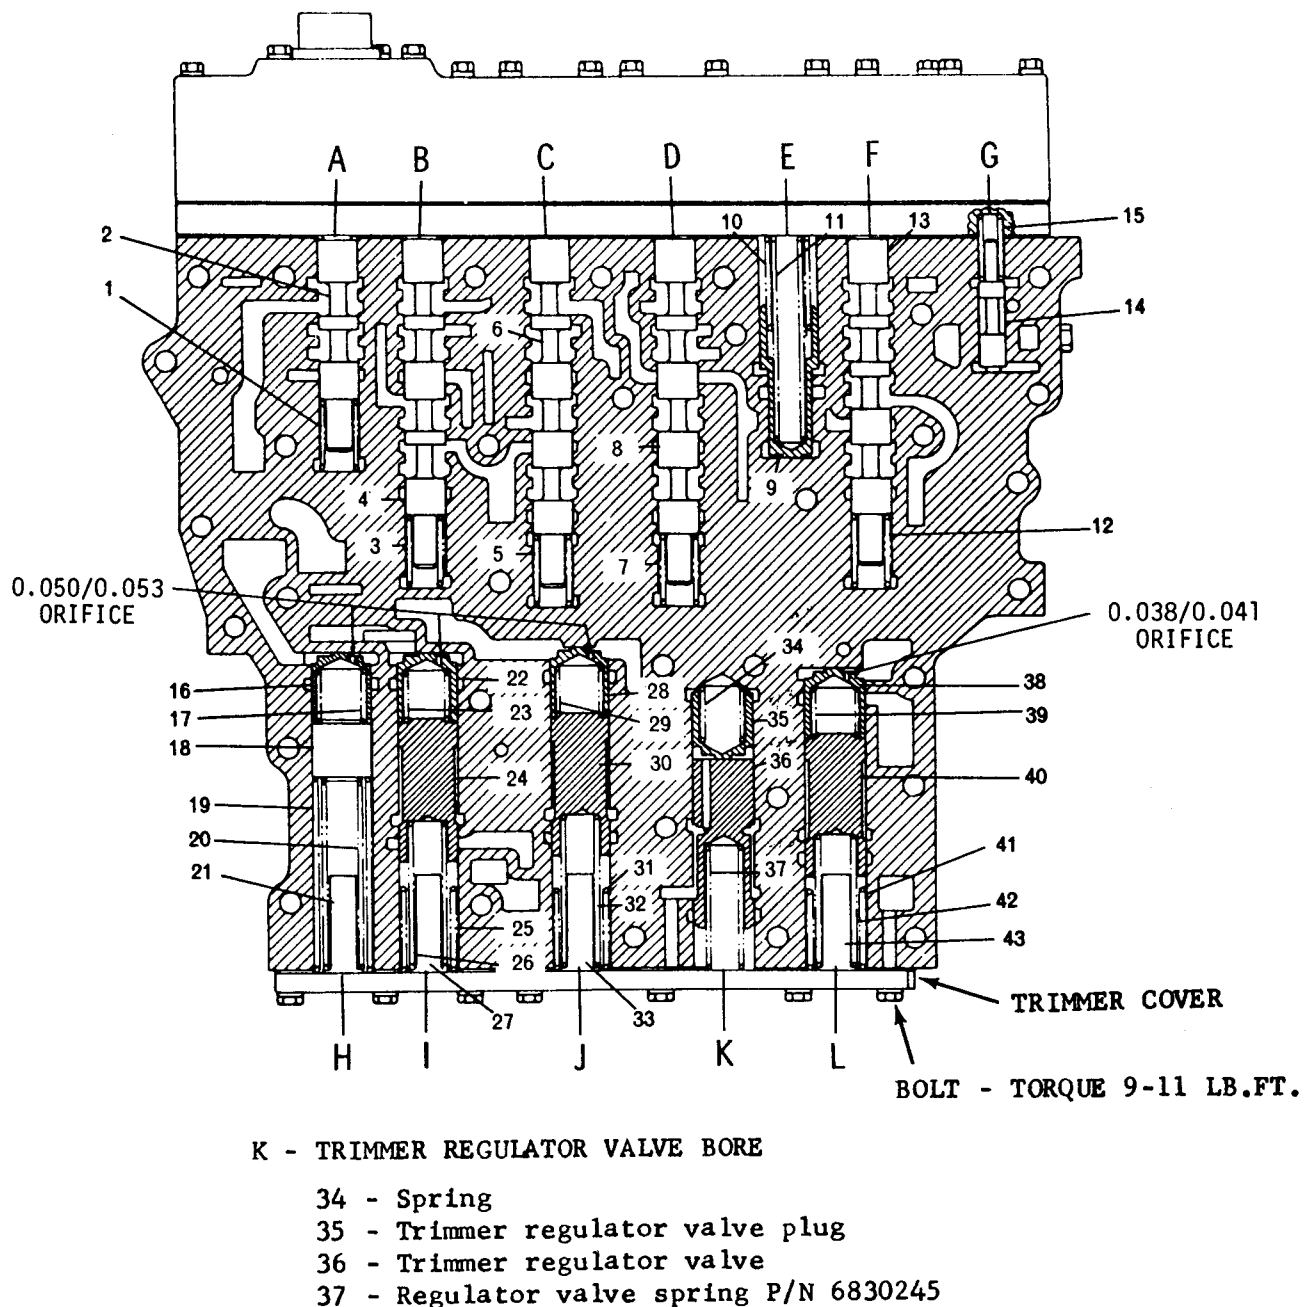

FIG. 1. VALVE BODY, WITH COMPONENTS INSTALLED IN EACH BORE - CROSS-SECTION VIEW
1. Loosen (not remove) evenly all bolts retaining trimmer cover at the bottom of control valve body assembly enough to lower (not remove) cover. Refer to Figure 1.